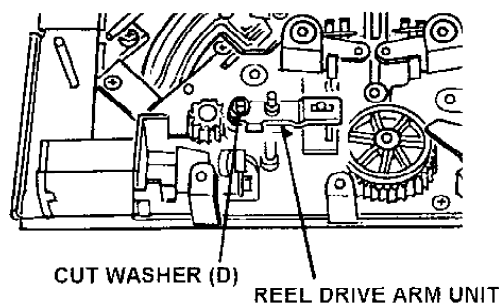

Fig.6-22-2 Removal of Reel Drive Arm Unit
3. Remove the L-M Release Angle Unit. (Refer to item 6-21).
4. Remove the Reel Drive Sensor P.C.Board (Refer to item 6-20).
5. Remove the Cut Washer (A) and remove the Reel Drive Cam Gear.
6. Remove the Cut Washer (B) and remove the MIC Drive Arm Unit.
7. Remove the Cut Washer (C) and remove the MIC Geneva Gear.
8. Remove the Cut Washer (D) and remove the Reel Drive Arm Unit as shown in Figure 6-22-2.
9. Remove the Supply and Take Up Reel Rotor Unit (Refer to item 6-3).
10. Remove the 2 Cut Washers (E) and remove the Supply and Take Up Base Drive Arm Unit.
11. Remove the 2 Cut Washers (F) and remove the Slide Rod Unit.
4. Place the REC Inhibit SW in front position on Distinction SW Unit by rotation of MIC Geneva Gear, and then MIC Geneva Gear should be positioned as shown in Figure 6-22-2.
Protrusion of MIC DRIVE Arm Unit is positioned as shown in Figure 6-22-2.